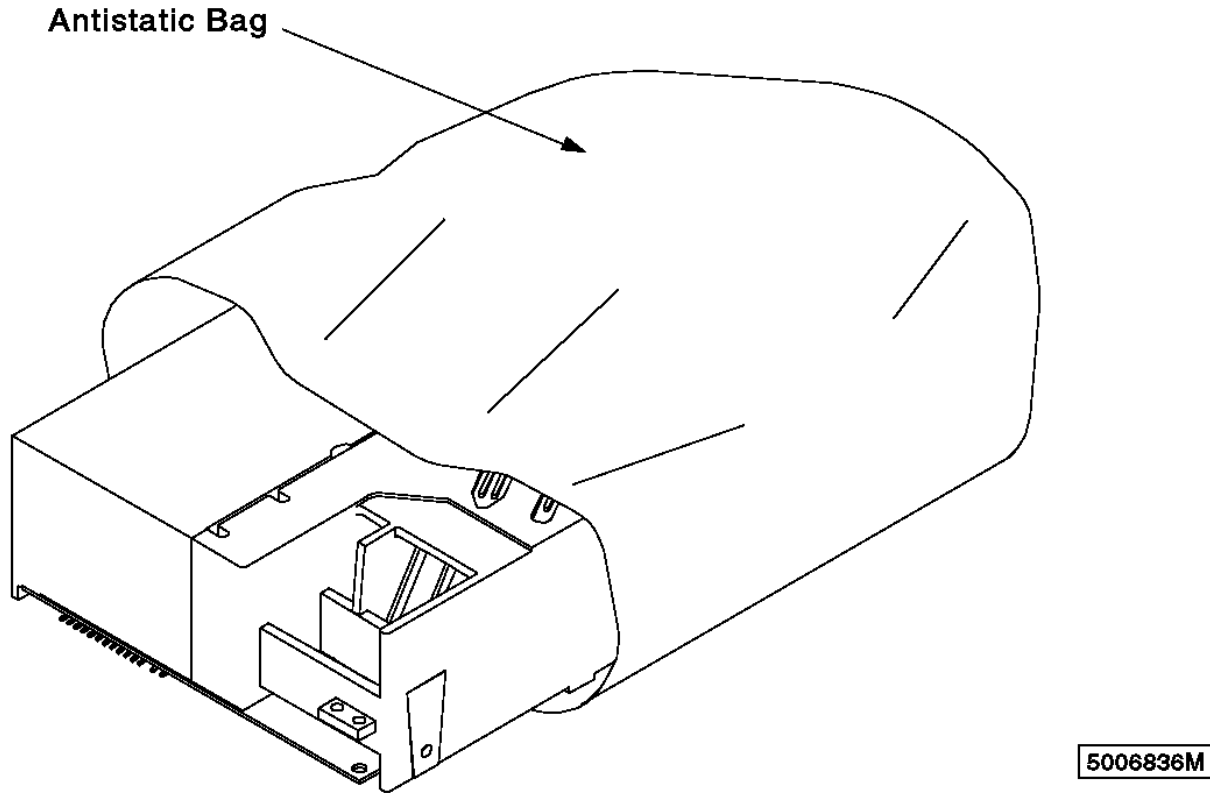

Figure 18. ESD-Sensitive Part in Antistatic Bag
2. Do not remove the ESD-sensitive part from the antistatic bag (Figure 18) until you are ready to install it.